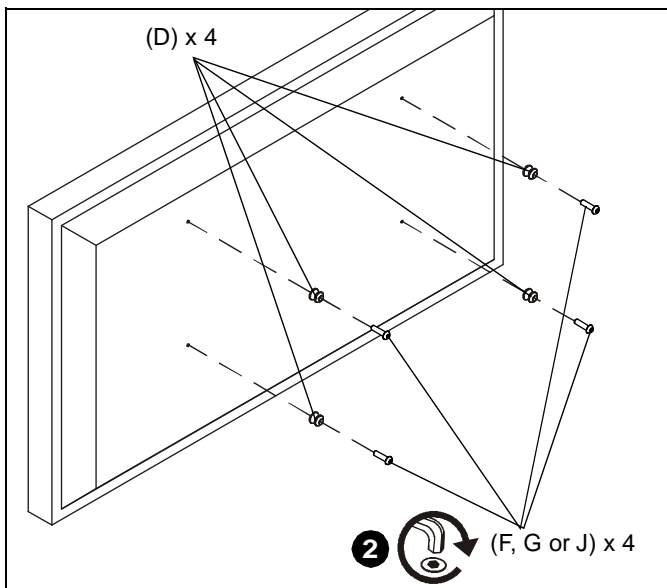

Figure 4
2. Install four mounting buttons (D) onto display using four button head screws (F, G or J). (See Figure 4)